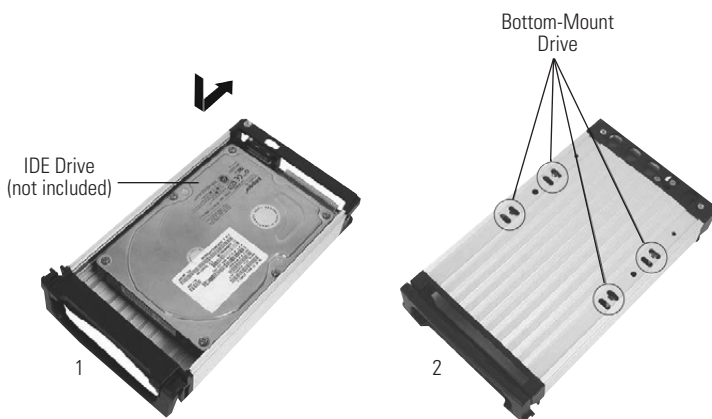

Figure 5: Installing a Drive into the Carrier
3. Bottom-mount the drive into the carrier with four (4) Phillips screws (Figure 5). Reinstall cover onto the carrier.